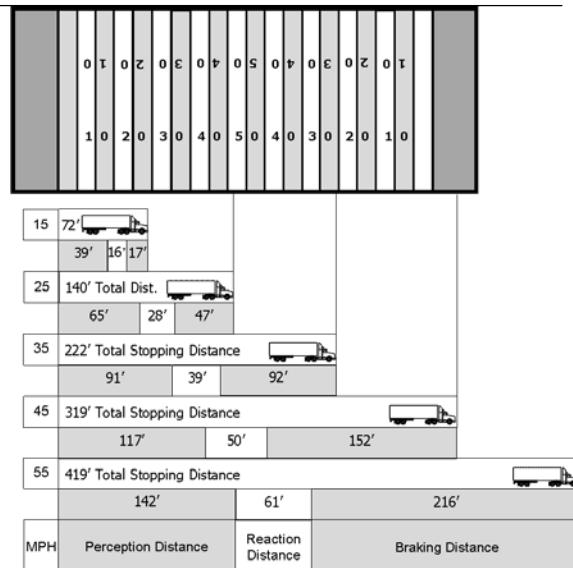

Figure 2.11
**Reaction Distance.** The distance you will continue to travel, in ideal conditions; before you physically hit the brakes, in response to a hazard seen ahead. The average driver has a reaction time of  $\frac{3}{4}$  second to one (1) second. At 55 mph this accounts for 61 feet traveled.
**Total Stopping Distance.** The total minimum distance your vehicle has traveled, in ideal conditions; with everything considered, including perception distance, reaction distance and braking distance, until you can bring your vehicle to a complete stop. At 55 mph, your vehicle will travel a minimum of 419 feet. See Figure 2.11.